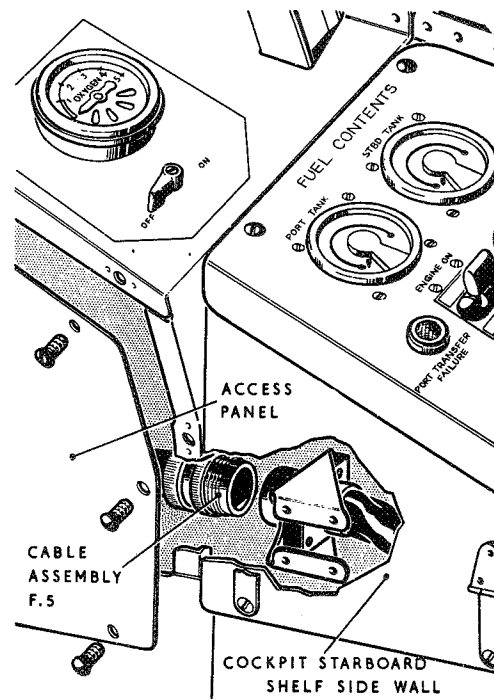

Fig.4 Plug at forward end of cabin starboard shelf
- (1) Render the aircraft electrically safe, as described in Group A.1.
- (2) Disconnect all the plugs and sockets on the cable assemblies at the end plate at the rear end of the shelf. Seal off the plugs and sockets with approved caps and covers and stow the cable assemblies away from the shelf.
- (3) Disconnect cable assemblies F33 and F34 from the A.C. junction box, fit approved caps and covers to the plugs and sockets and coil back the assemblies to the starboard shelf.
- (4) Disconnect cable assembly F5 from the plug mounting bracket at the forward end of the shelf (*fig.4*). Seal off the plug and socket with an approved cap and cover. Stow the cable assembly clear of the shelf. On Post Mod. N.S.M.3012 aircraft remove cover